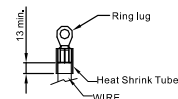

Figure 2
- Figure 2 shows the specification of insulated heat shrink tubing that comply with UL (600V, YDPU2).